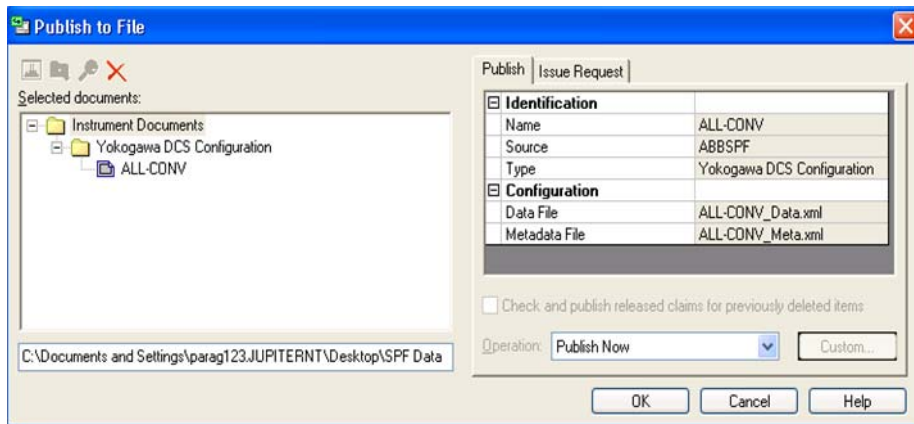

Figure 65. Publish to File Text Path
- From the Publish to File window, specify the path in the textbox in bottom left corner of the window to save file at designated location as shown in Figure 65.